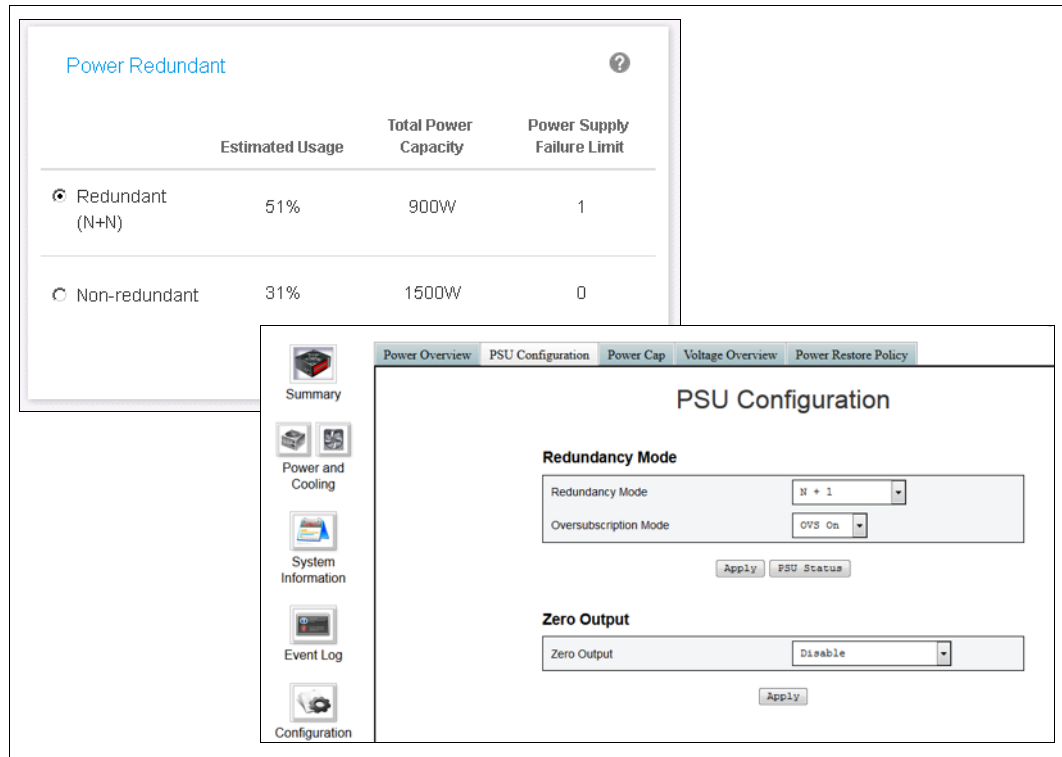

Figure 10 Power policies (SMM in the ThinkSystem D2 Enclosure and Modular Enclosure)
- System Management Module (SMM) of the ThinkSystem D2 Enclosure and Modular Enclosure used with the SD530 servers: Power meter data can be read using the GUI or the command line (CLI). Examples of the web interface as shown in Figure 10 on page 16.